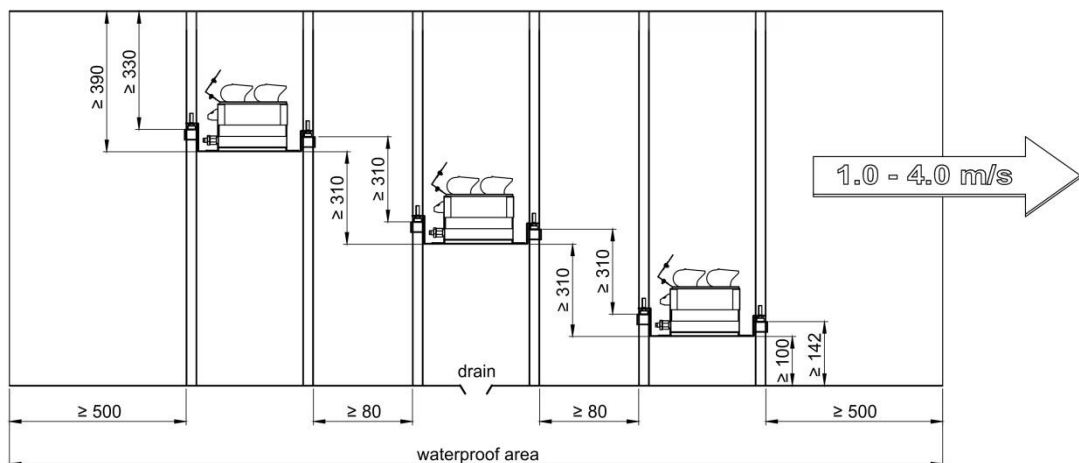
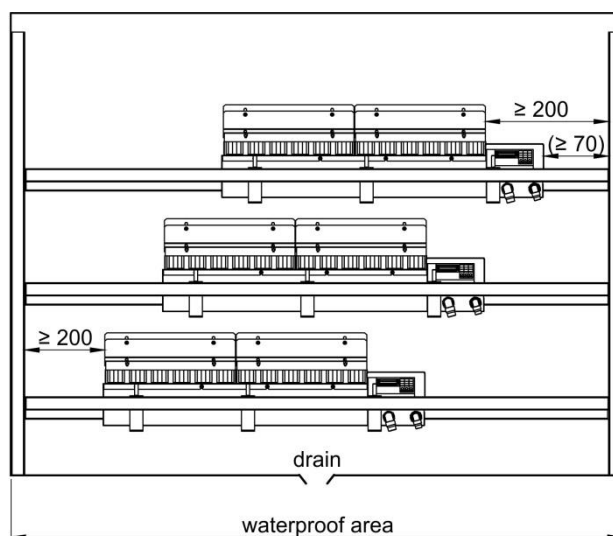

Fig. 7 - Side view into an air duct with three NKBD
Fig. 8 - View into an air duct in direction of air flow, three NKBD mounted above each other
- The distance from the bottom edge of the NKBD to the ceiling of the air duct must be min. 390 mm (Fig. 5 and Fig. 7).
- The distance between the NKBD and the duct/trough base must be min. 100 mm (Fig. 5 and Fig. 7).
- The distance between the NKBD control housing and the duct side wall must be min. 70 mm (Fig. 6 und Fig. 8).
- The distance between the NKBD and the duct side wall must be min. 200 mm (Fig. 6 and Fig. 8).
Humidifiers are mounted one above the other; offset horizontally (Fig. 7 and Fig. 8). Mounting example on mounting frame (on site) with NKBD mounting brackets (Item No. 2000105).